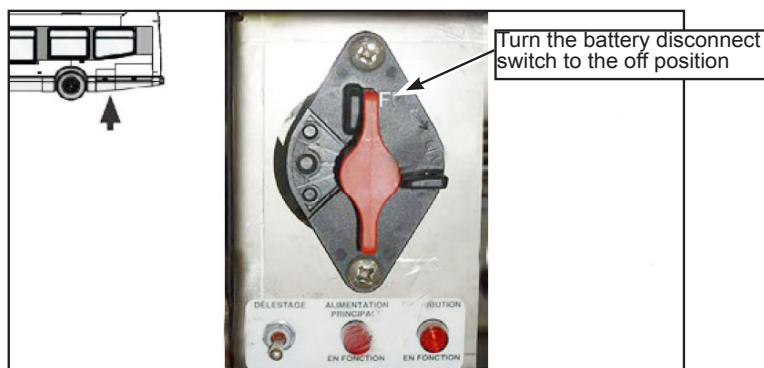

Figure 2 - Battery Disconnect Switch in the Off Position
- 1.3. Place the battery disconnect switch in the off position. Follow your local lock-out procedure (see Figure 2).